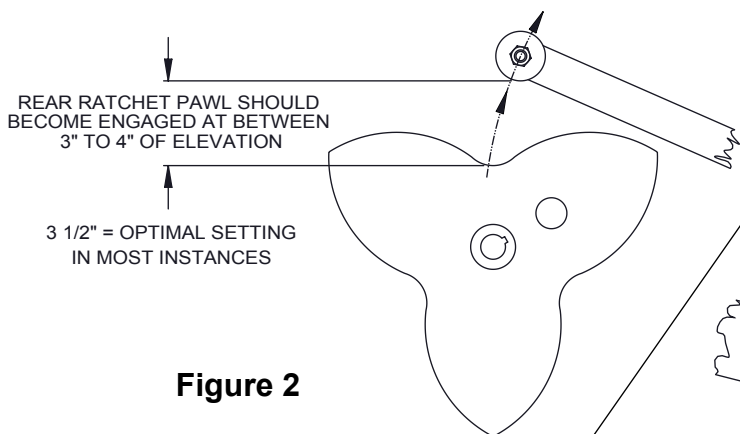

Figure 2
Step 9. Next, slowly lift the cam follower roller (Item 83) upwardly until the rear ratchet pawl engages. The instant the rear ratchet pawl becomes engaged, a reasonably loud “click” should be heard. Refer to Figure 2.